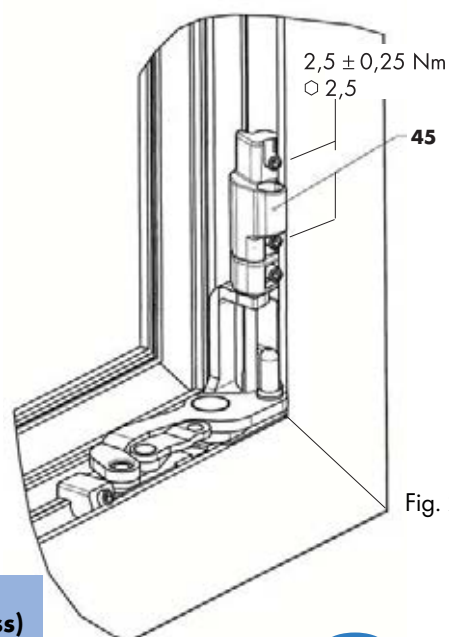

Fig. 2
5. Insert frame part BSU A0040 right/left (45) into the frame groove and position it on the axxent bottom hinge as shown in the diagram (fig. 2).
6. Tighten the grub screws of frame part BSU A0040 right/left (45) with  $2.5 \pm 0.25$  Nm torque.